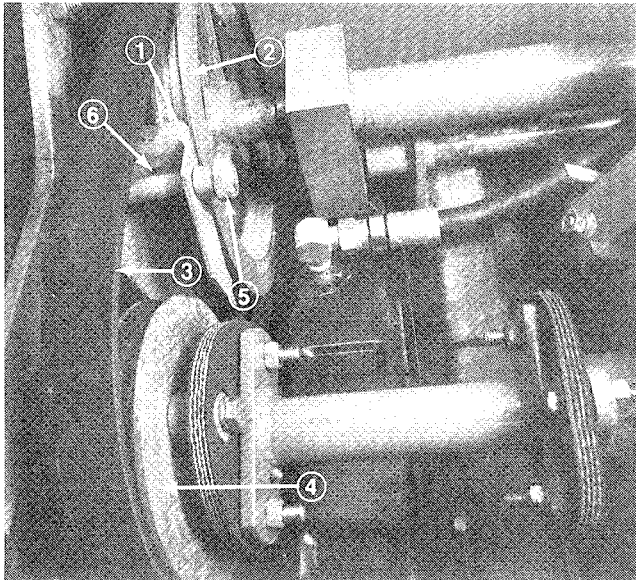

Figure 49
3. Move PTO lever to the ON position and remove PTO brake (Fig. 49).
4. Move PTO lever to the OFF position to release tension on the belt. Roll old belt off engine pulley and PTO pulley (Fig. 49).
2. Move PTO lever to ENGAGE position. Loosen adjusting locknut (Fig. 49). so brake is free to move. Then move PTO lever to OFF and position the brake in grooves of pulley.
3. Remove locknut holding brake on mounting pin, and slide spacer, brake and spring off the pins (Fig 49).